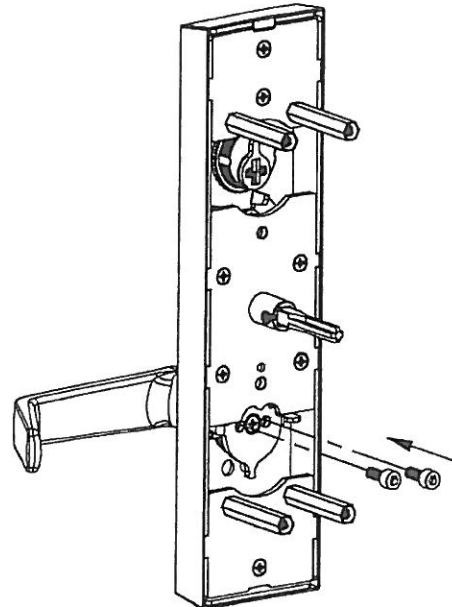

Fig. 2
3. Tighten handing screws (2), (inside hexagon).(Fig.2)